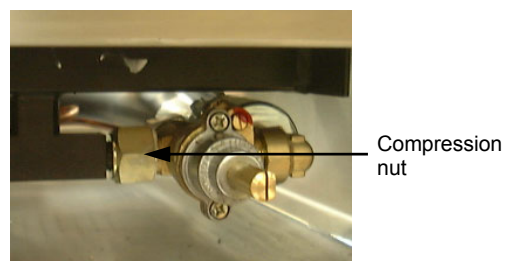

Figure 6.3.6
- 2) Remove heat shield (refer figure 6.3.6).
- 5) Unclip and remove front heat shield (refer figure 6.3.6).